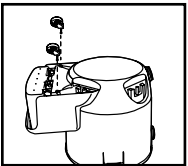

FIGURE 7
6. Take two casters and place a flat washer over the stem of each caster. Install casters into accessory caddy by inserting the caster stems into the holes provided. Apply pressure and twisting motion until the casters snap into place. **FIGURE 7.**